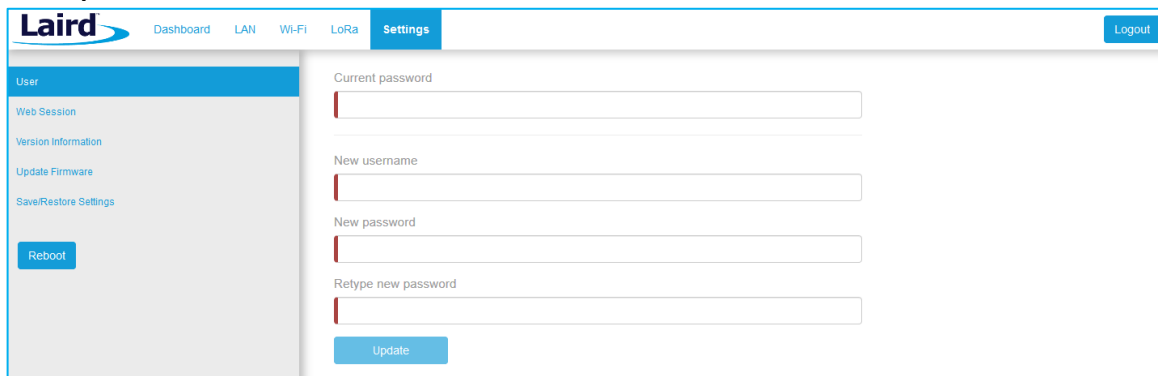

Figure 46: Change username and password
1. In the main menu, click the **Settings** tab. Then in the left menu, click the **User** tab (Figure 46).